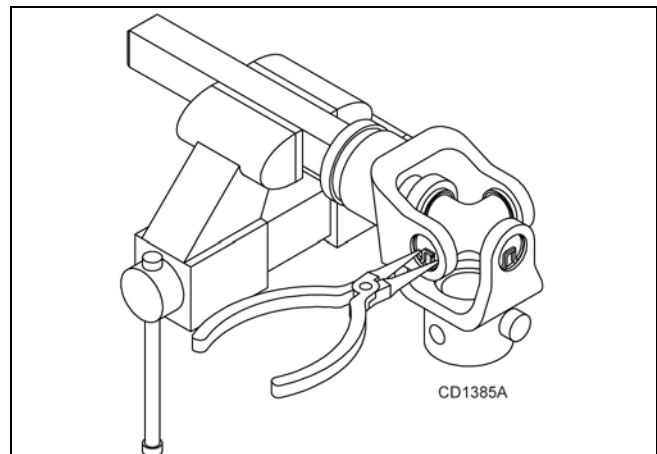

Figure 22
1. Remove external snap rings from yokes in four locations as shown in Figure 22.